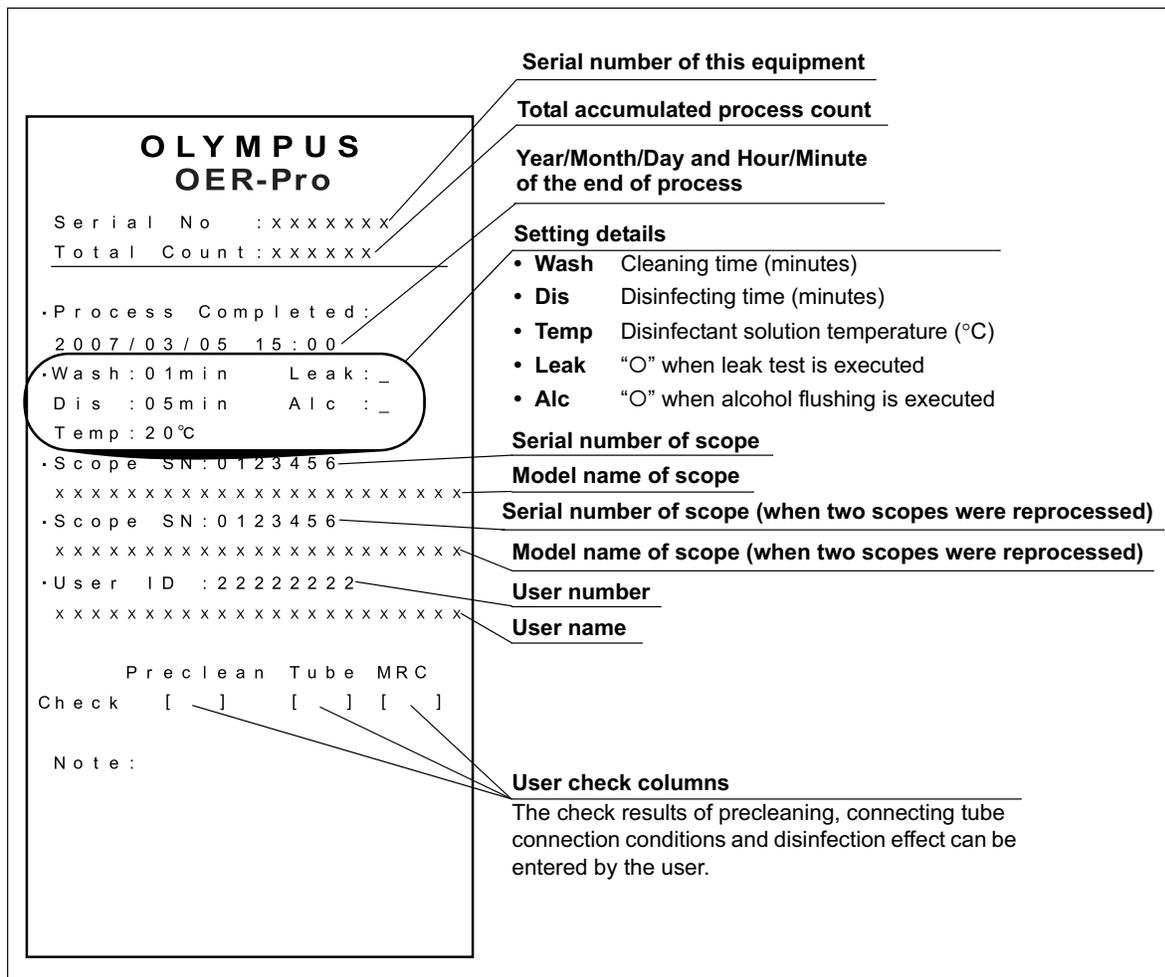

Figure 4.44
- For the printed information (see Figure 4.44).